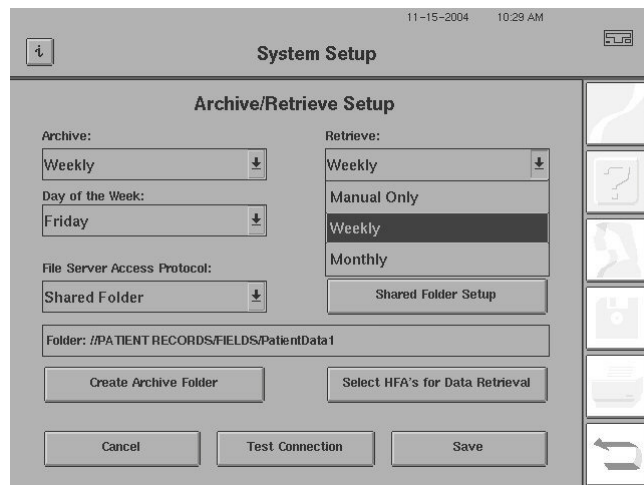

Figure I.21 Selecting Weekly or Monthly Automatic Archive Retrieval
- 2 Open the Retrieve drop-down box to select WEEKLY or MONTHLY automatic retrieval, as shown in Figure I.21.